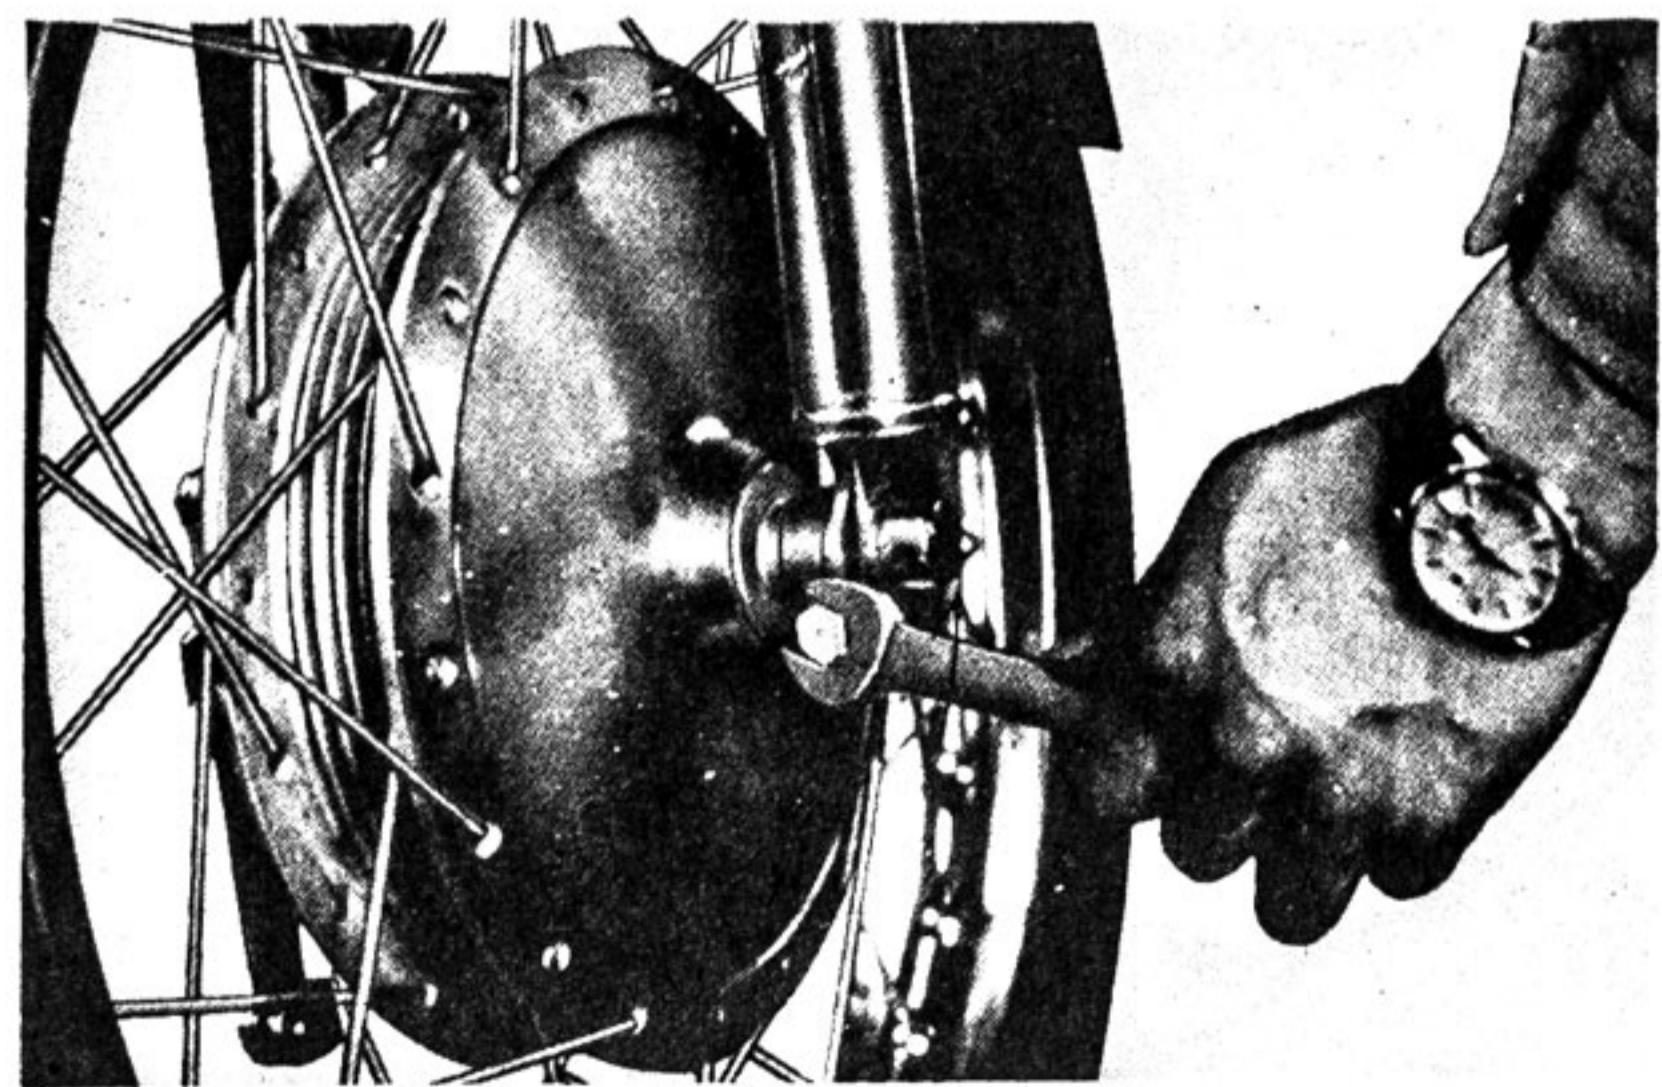

Fig. 5-1-4
(3) Loosen the front wheel shaft lock bolt. (Fig. 5-1-4)